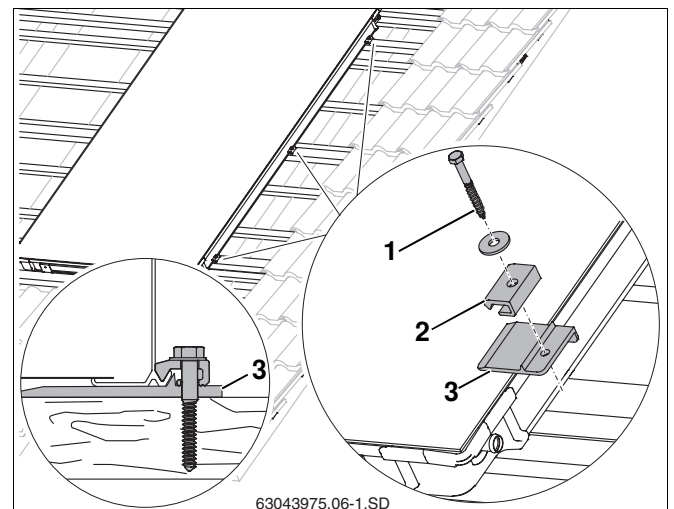

Fig. 23 Laying first collector and screwing in place
- Lift collector slightly and, on the 2nd and 3rd additional battens, as well as halfway along the collector on a free batten, push the right-hand pack plates (Fig. 23, **Item 3**) under the collector until the roof pushes against the lower edge of the collector.
- For the screw (Fig. 23, **Item 1**) drill a pilot hole with a 4 mm drill.
- Fasten the single-sided clamps (Fig. 23, **Item 2**) with a 6x40 screw (Fig. 23, **Item 1**) and washer (use size 10 spanner).